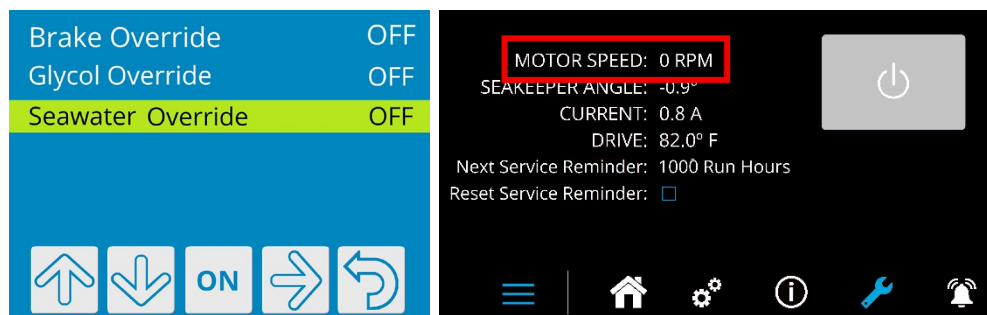

Figure 1: Service screen shown with motor speed highlighted
3. **ENSURE** motor speed at zero RPM on Service Screen of MFD app, shown in Figure 1.